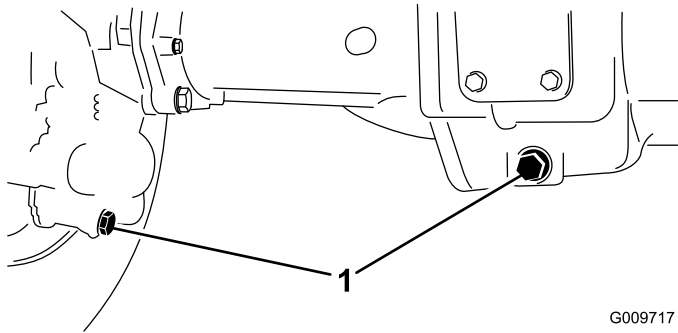

Figure 110
2. Clean the area around the 3 drain plugs, 1 on each end and 1 in the center (Figure 110).